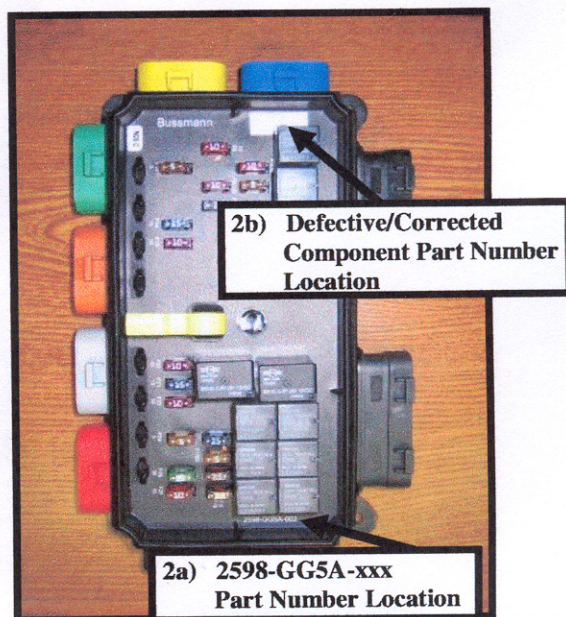

FIG. 2-1
- 2a. Refer to FIG. 2-1. Identify the DVEC having a part number beginning with 2598-GG5A. The part number is located on the inside cover and on the lower right inside face of the box.
- 2b. Refer to FIG. 2-1, 2-2 & 3-1. The DVEC having a part number in the top right corner of the box ending in a -1 is defective and must be replaced with a box where this number ends in -2 as shown in FIG. 3-1.